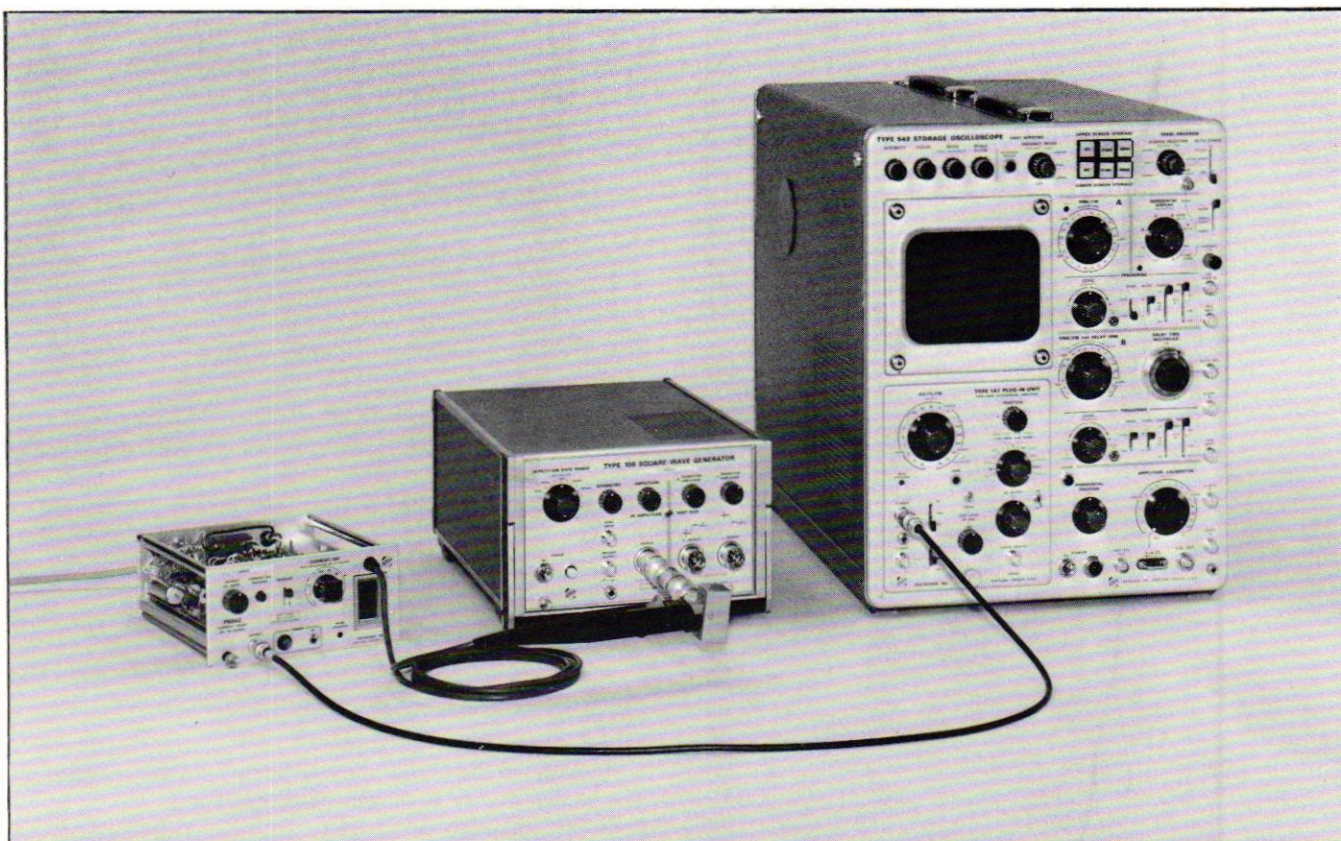

Fig. 6-13. Test setup for step 12.
- Connect the two GR 10× 50 Ω attenuators and the current loop to the square-wave generator Hi Amplitude output. Connect the probe to the current loop. See Fig. 6-13.